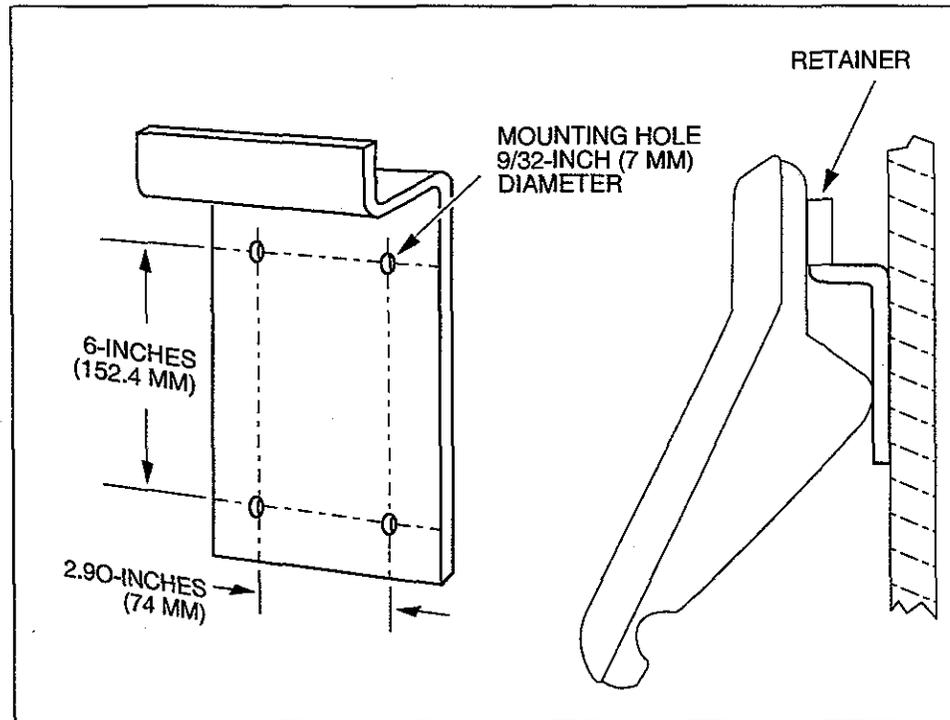

Figure 2-10
1. Position the Bracket at the desired location. Using the mounting holes as a template, scribe the locations at which anchoring devices will be installed. See Figure 2-10.
4. A steel retainer, located on back of the Angiomat 6000 console, slips around the Wall-Mounting Bracket, as illustrated in Figure 2-10. To mount the console to the wall, slip the retainer over the wall-mounting bracket.